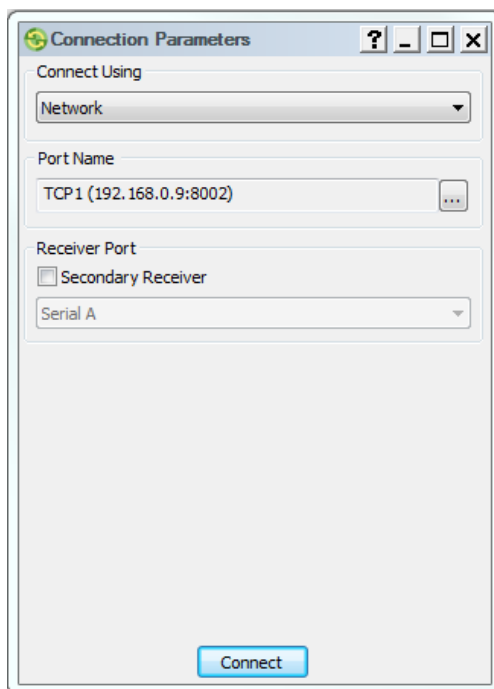

Figure 23: TRU Connection Parameters – Network
4. **Select Network** from the **Connect Using** drop-down list (Figure 23).